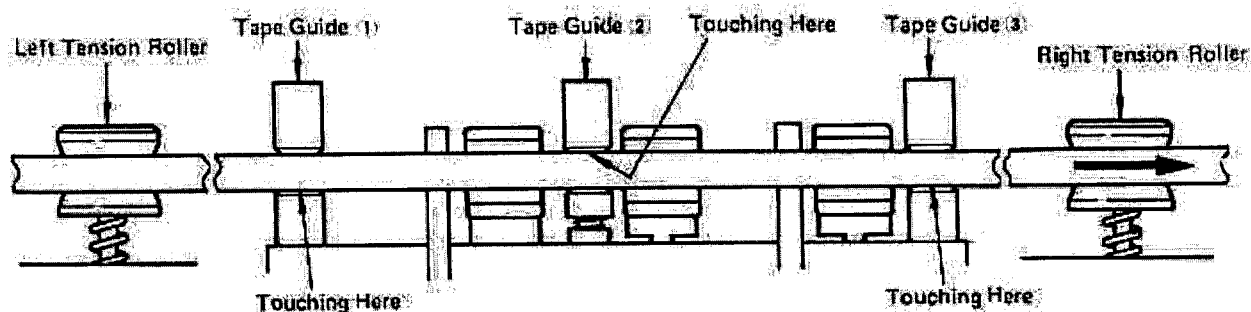

Fig. 9-5-4. Correct Tape Travel
1. Load a tape and run it in repro mode. Check that the upper edge of the tape is just touching the upper flange of the tape guide ②, and the lower edge of the tape the lower flange of the tape guides ① and ③ (see Fig. 9-5-4).